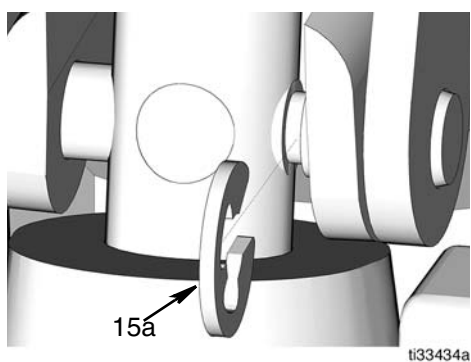

FIG. 20
4. Remove clip (15a) as shown in FIG. 20.